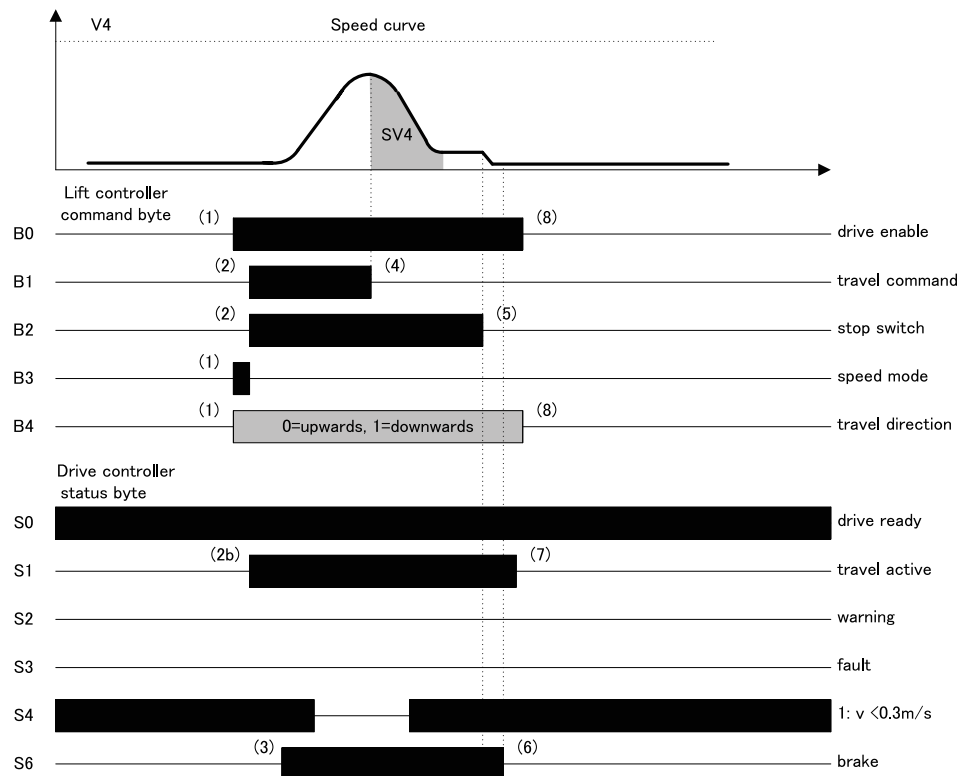

Figure 6.10 V4 Short Travel (DCP3)
The same procedure as described in Figure 6.10 with fast speed applies whereas in that step (1), the appropriate intermediate speed must be transmitted.